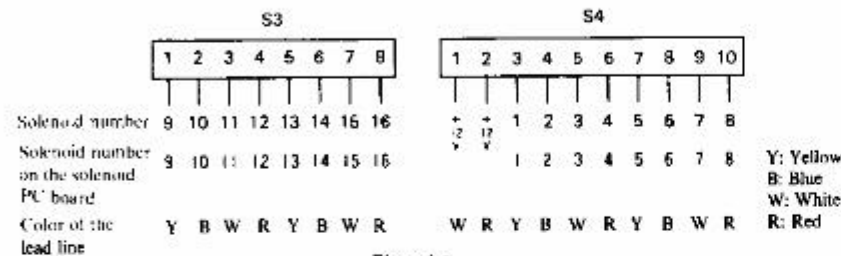

Figure 8-2
- Check the resistance between pin 1 or 2 of the S4 connector and the pin of the connector which corresponds to the unenergised armature. (Refer to figure 8-2. In picture 8-1, there is a problem in pin 1 of S4 or pin 2 and pin 5 of S3). Resistance should be within 100 - 123 Ω . If it is not, there is a problem, which may be found with the check given below. If no problem is found in the resistance values, perform the check given in test program C-1.